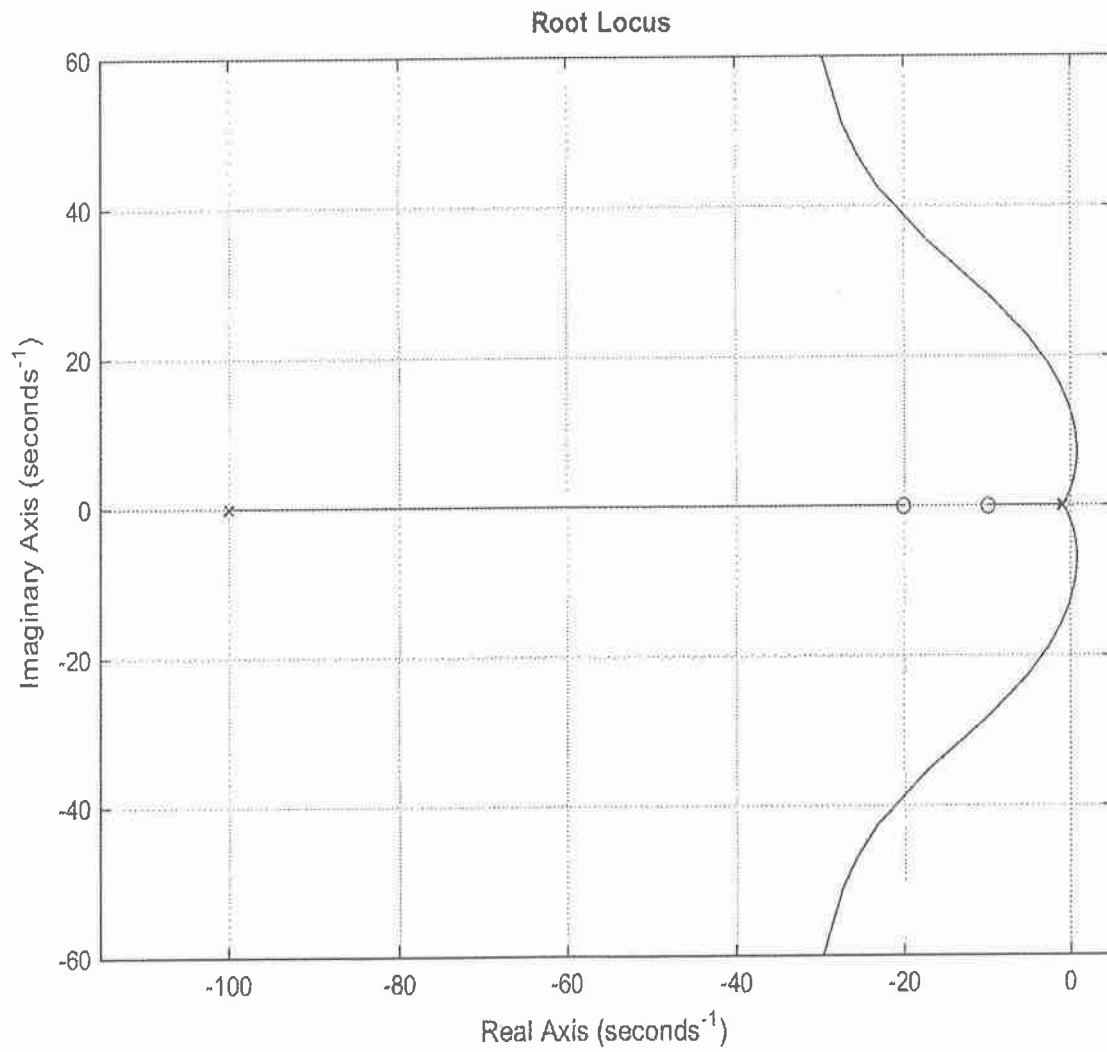

Figure Q1.1 – Root Locus Plot for Stability Question
The Root Locus for this system is shown in Figure Q1.1 and the Open Loop Frequency Response plot is shown in Figure Q1.2. Your task is to investigate the stability of the closed loop system using s-domain analysis by finding: a) the value of the Proportional Controller Gain or Gains at which the closed loop system becomes marginally stable ( $K_p = K_{crit}$ ) and the corresponding frequency or frequencies of marginally stable oscillations ( $\omega_{osc}$ ), and b) the range or ranges of safe operating gains for the Proportional Controller.
- 1) (10 points) Figure Q1.1 shows that there are two crossovers of the Root Locus with the Imaginary axis. They are identified as:  $s_1 = j2.25$  rad/sec and  $s_2 = j12.5$  rad/sec. Use the Root Locus **Magnitude Criterion** to determine the corresponding values of critical gains ( $K_{crit}$ ). Finally, use the Root Locus sketch to interpret the corresponding range or ranges of safe operating gains.